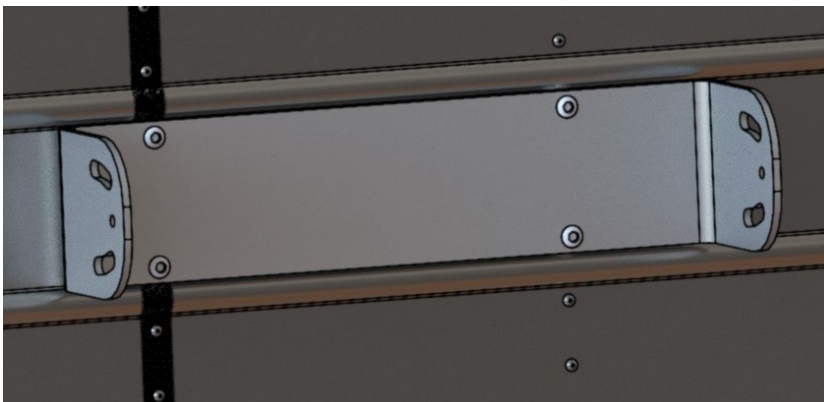

Figure 3. Inner bracket with fasteners installed.
5. Find the four fasteners that line up to four of the holes in the bracket. See *figure 3*. If no holes in the bracket line up with the fasteners in the nose of the trailer the pivot point can be moved up to 2" to roadside or up to 1" to curbside along the horizontal dimensions shown. The bracket can be moved up to 1" higher or lower on the vertical axis.